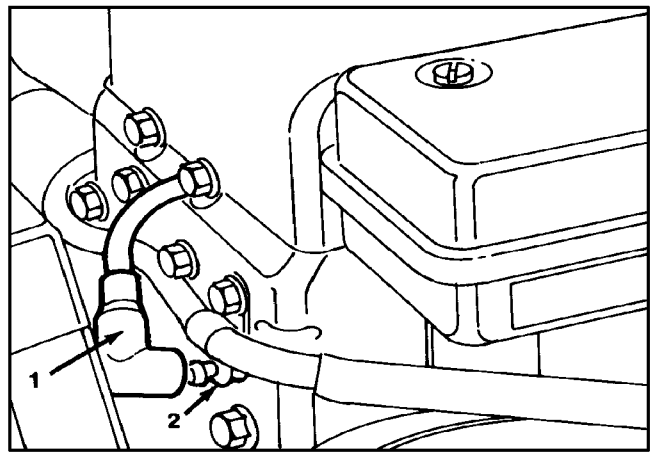

Figure 16
2. Pull the wire off the spark plug and remove the plug from the cylinder head (Fig. 16).